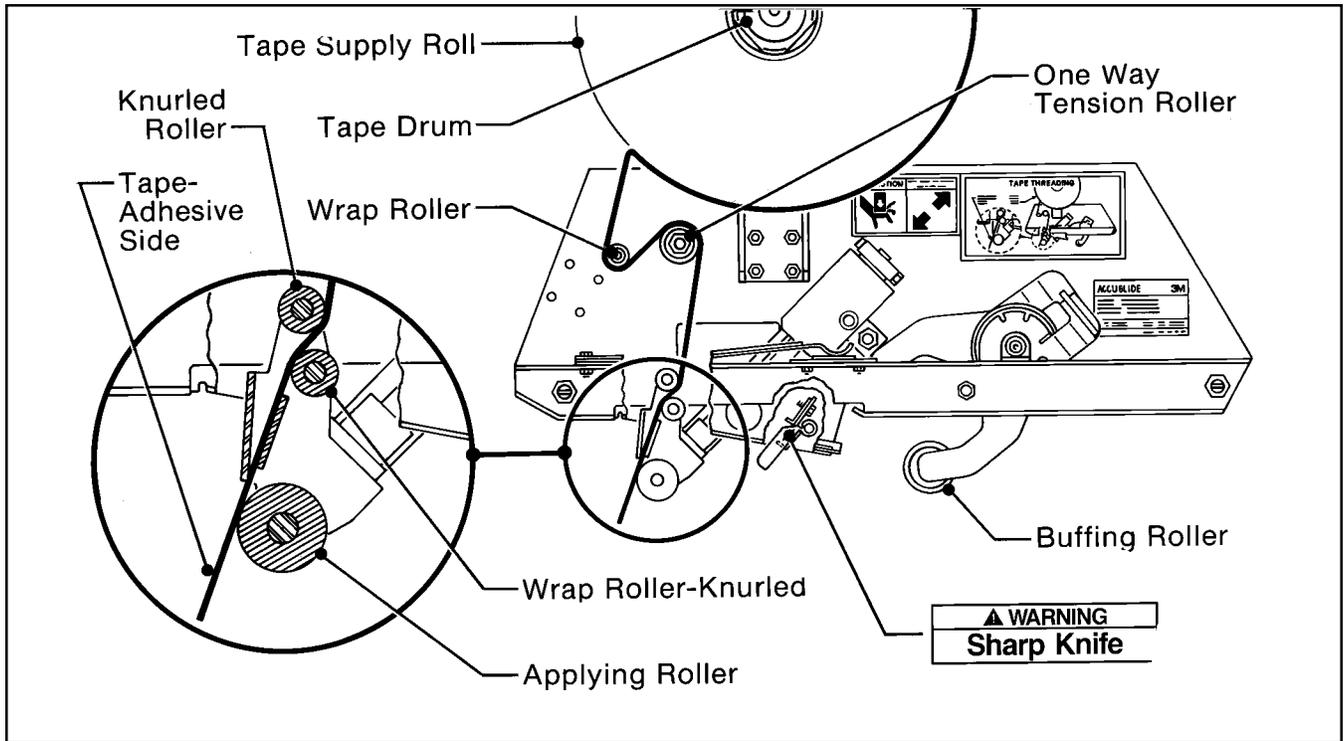

Figure 4-1 – Tape Threading Diagram – Upper Taping Head
1-1 The “**Warning – Sharp Knife**” label is used on each head to warn operators and service personnel of the extremely sharp blades used to cut the tape at the end of the box sealing operation. The label shown in Figure 1-1 is located on the blade guard assembly between the applying roller assembly and the buffing roller assembly. Before working with the tape heads or attempting to load the tape, refer to Figures 4-1 and 4-2 and identify the knife blade location. Keeps hands out of these areas except as necessary to service the taping heads.
BOTH THE UPPER AND LOWER TAPING HEADS UTILIZE EXTREMELY SHARP KNIFE BLADES. THE BLADES ARE LOCATED UNDER THE ORANGE BLADE GUARD WHICH HAS THE “WARNING - SHARP KNIFE” LABEL. BEFORE WORKING WITH THE TAPING HEADS OR ATTEMPTING TO LOAD THE TAPE, REFER TO FIGURES 4-1 AND 4-2 AND IDENTIFY THE BLADE LOCATION. KEEP HANDS OUT OF THESE AREAS EXCEPT AS NECESSARY TO SERVICE THE TAPING HEADS.
1. BOTH THE UPPER AND LOWER TAPING HEADS UTILIZE EXTREMELY SHARP KNIFE BLADES WHICH ARE LOCATED UNDER THE ORANGE BLADE GUARD WITH THE “WARNING –w SHARP KNIFE” LABEL. REFER TO FIGURE 4-1 AND 4-2 AND IDENTIFY THE BLADE LOCATIONS KEEP HANDS OUT OF THIS AREA EXCEPT AS NECESSARY TO SERVICE THE TAPING HEADS.
Refer to Figures 4-1 and 4-3